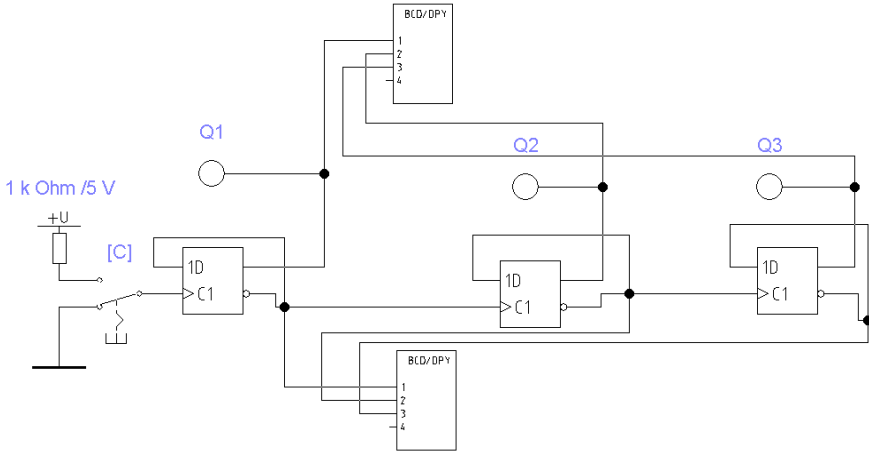

Figure 10.3 – Scheme of research of three-bit binary counter
6. Draw the schema shown in fig. 10.3 (file 14_06 in the examples).